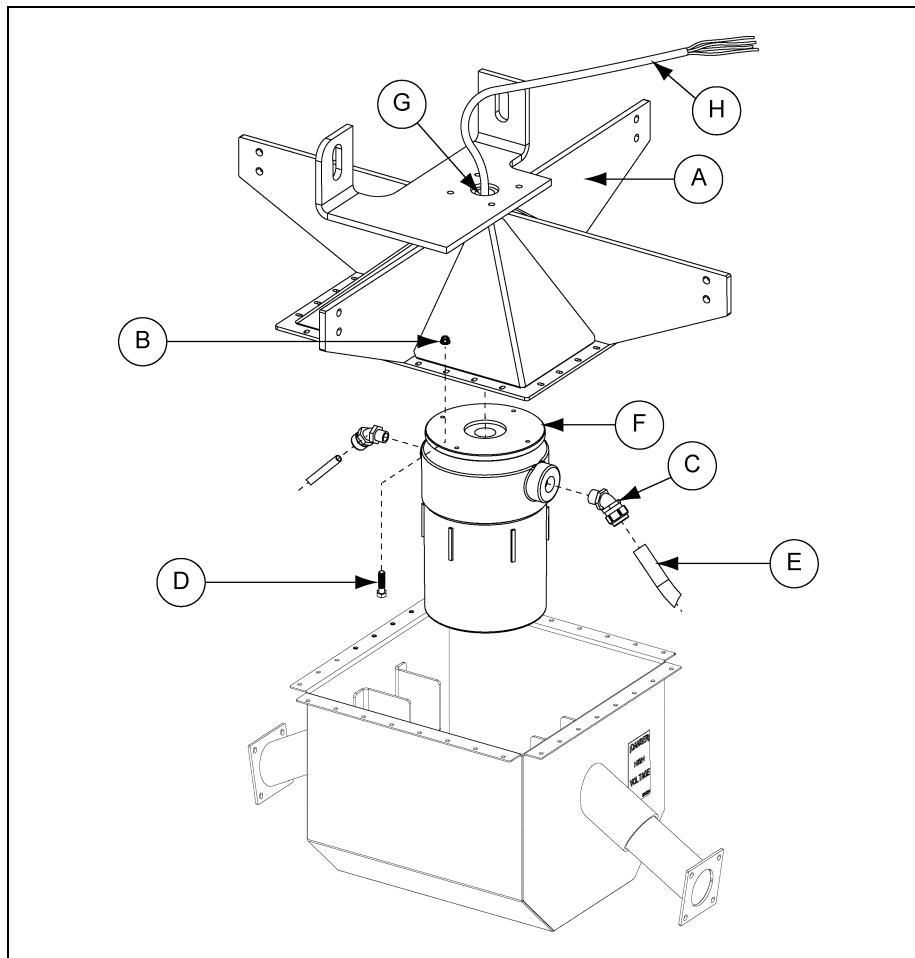

Figure 6A
1. Guide electrical wires (H) from top of cross brace assembly (A), through the cross brace pivot shaft (G) and secure cross brace assembly (A) onto the collector ring (F) with hex bolts (D) and hex nuts (B). Tighten to specification. *(See Figure 6A.)*
2. Continue to guide the electrical wires (H) from the collector ring (F) through each conduit elbow (C) and attach the conduit elbow (C) to the collector ring (F).
3. Guide the electrical wires (H) through the lower flex conduit (E) and attach to the conduit elbows (C).